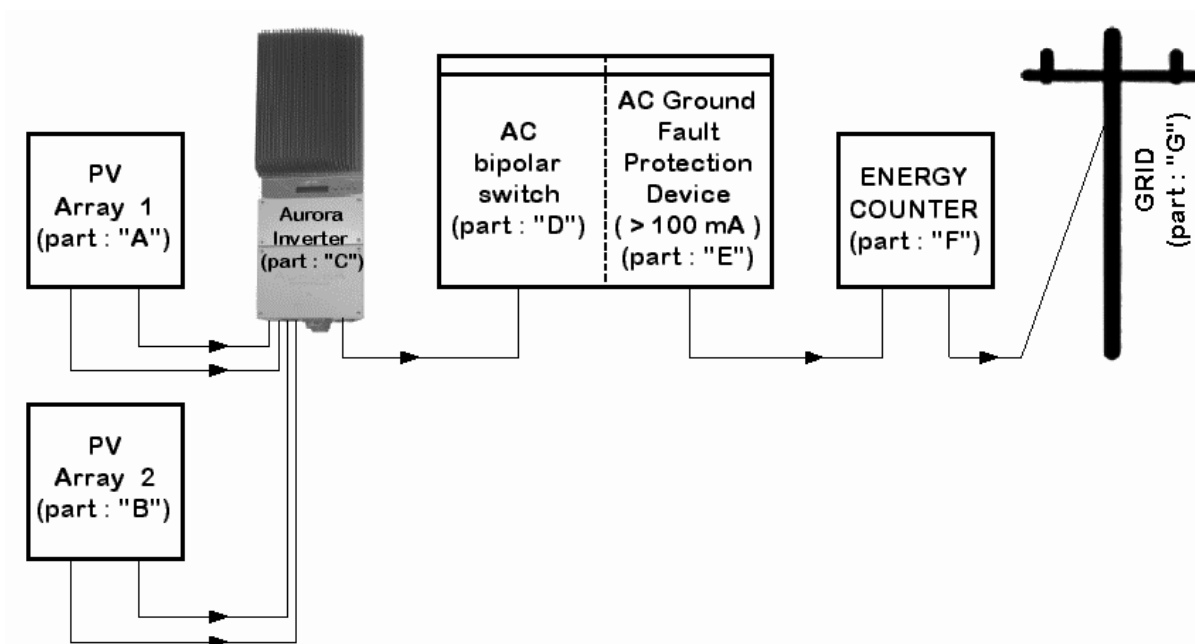

Fig. 9 - Electrical Connection Diagram
On the AC output side an automatic magnetothermic switch should be inserted between the Aurora inverter and the distribution grid (see Fig. 9. - Electrical Connection Diagram).
STEP 1 If the inverter is connected to the AC Grid (Fig. 15- “Terminal Block for AC Connection”– pos. "1", "2" and "3"), DISCONNECT the inverter from the AC Grid by opening the switch indicated as Part “D” in Fig. 9-“Electrical Connection Diagram”. Disconnect the DC side switch (integrated in the –S models, or externally provided).
WARNING: The Switch Box disconnects the DC current from the photovoltaic panels when the switch is in “OFF” position (see the electrical schematics in Fig.11 SD-01 – Electrical Schematics DC Switch Box" and DOES NOT disconnect the AC line going to the Grid. To disconnect the inverter from the AC Grid, the AC switch (not included in the Switch Box) must be disconnected (see Fig. 9 - "Connection Diagram").
Step 1: Disconnect from the AC Grid by turning Off the "AC Bipolar Switch" – Part "D" in Fig. 9 "Electrical Connection Diagram".